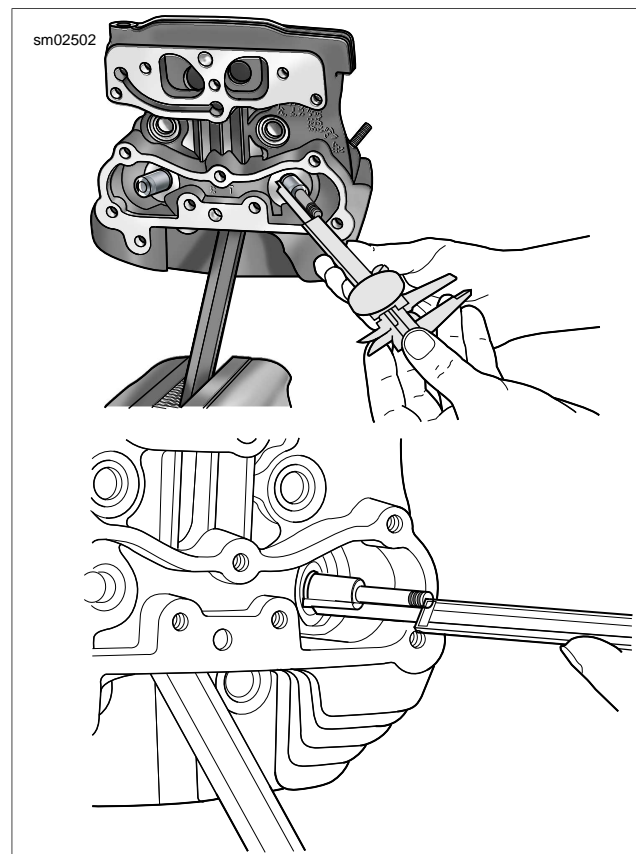

Figure 3-94. Checking Valve Stem Protrusion
- See Figure 3-94. Measure valve stem protrusion. Seat wear causes the valve stem protrusion to change.